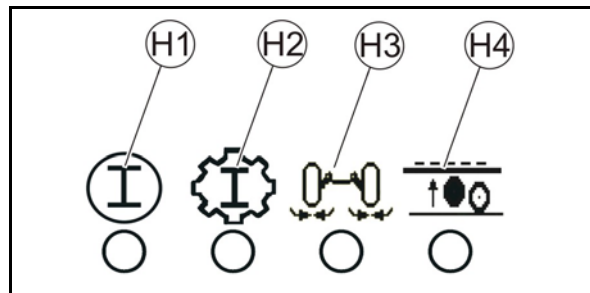

Fig. 106
- A short beep is emitted. The control lamp *H1* (Fig. 106) is flashing. The bottom and top feed rate are saved.